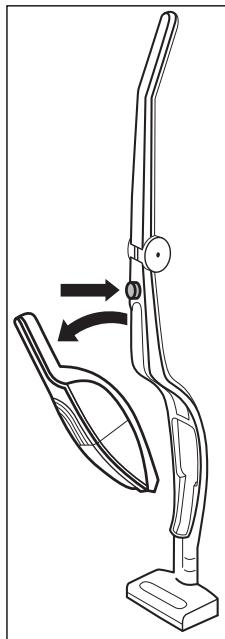

Fig. 2
- Then pull the hand element 5 upwards and forwards out of the hand element recess 14 (Fig. 2).